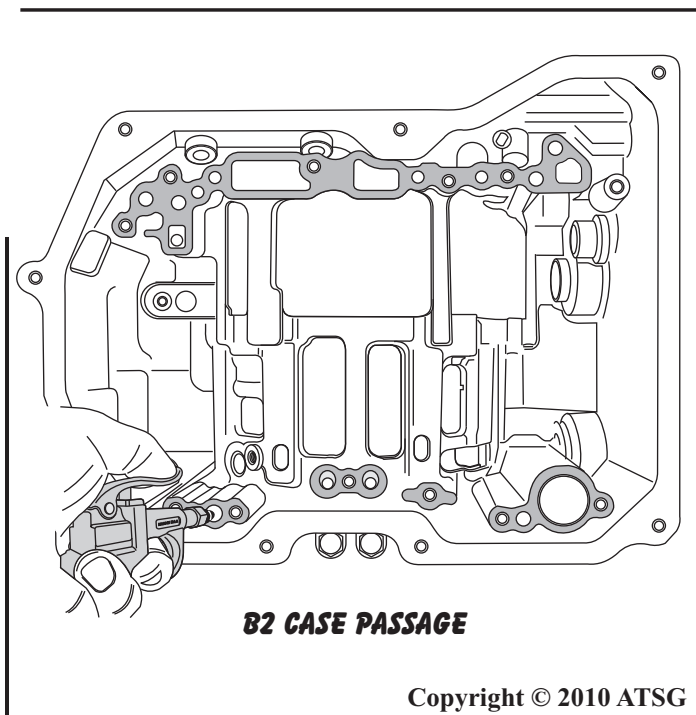

Figure 86
71. Apply compressed air to the B2 clutch passage in the case, as shown in Figure 86, to loosen the B2 clutch piston.